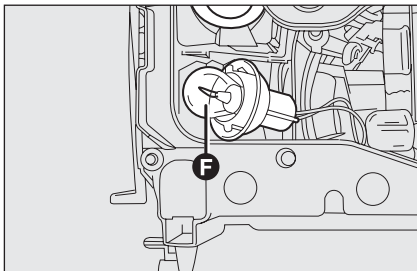

fig. 24
- remove the burnt bulb **F-fig. 24** and fit the new bulb;